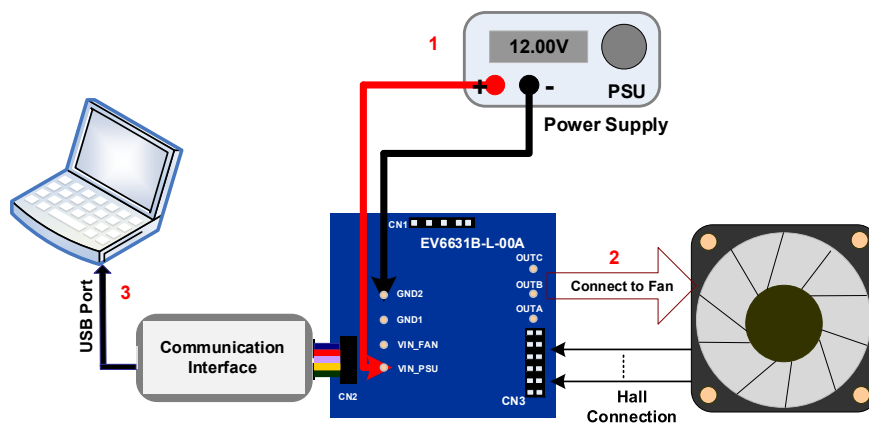

Figure 1: EVB Connection with the Communication Interface
2. Connect the power supply output terminals to (see Figure 1):
Figure 1 shows the equipment set-up with the communication interface.